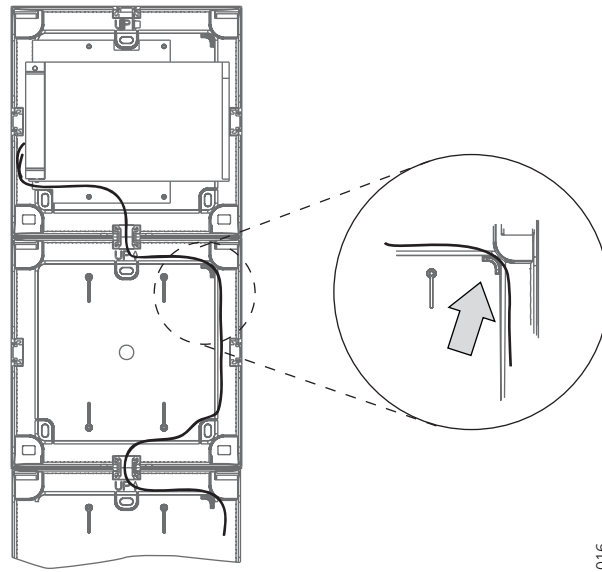

Figure 16. +5 V DC supply voltage cable support.
- 1 If possible run the +5 V DC supply voltage cable around the cable support, to avoid cable break. See figure 16.